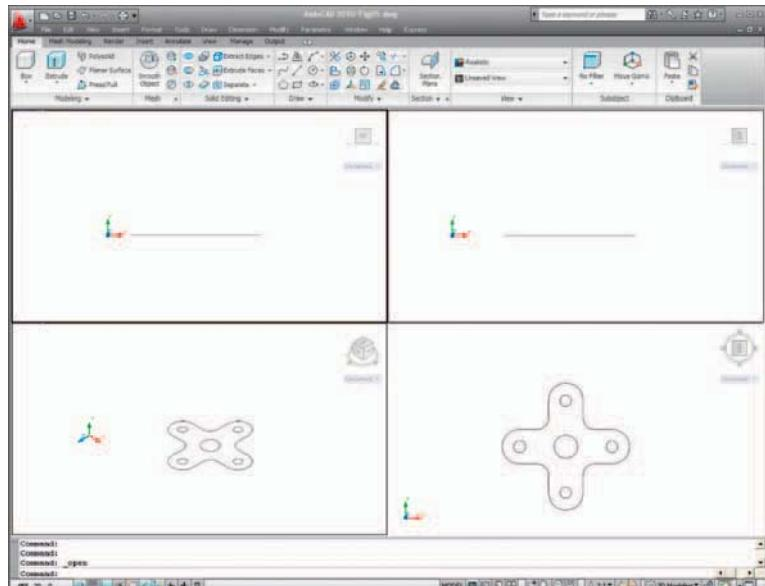

Fig. 13.5 First example – the view outlines
3. Using the **Polyline** tool, construct the outline of the plan view of the plate of the support, including the holes in the **Top** viewport (**Fig. 13.5**). Note the views in the other viewports.